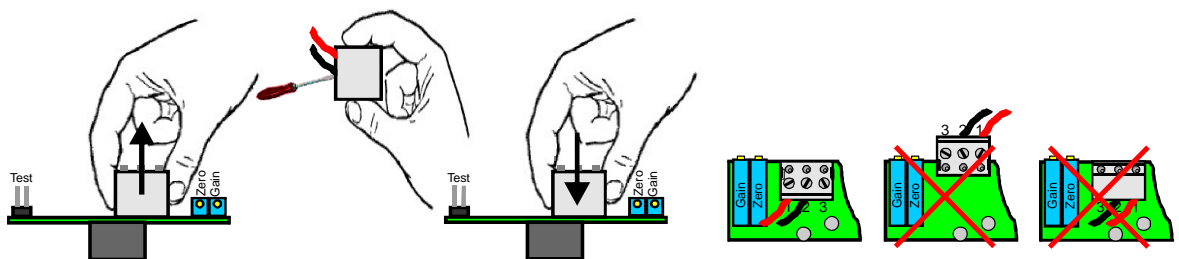

Fig.3 Electric Connection#
- Plug in the socket board correctly. See fig.3.
Socket board not plugged in correctly	Plug in the socket board acc. to fig.3.